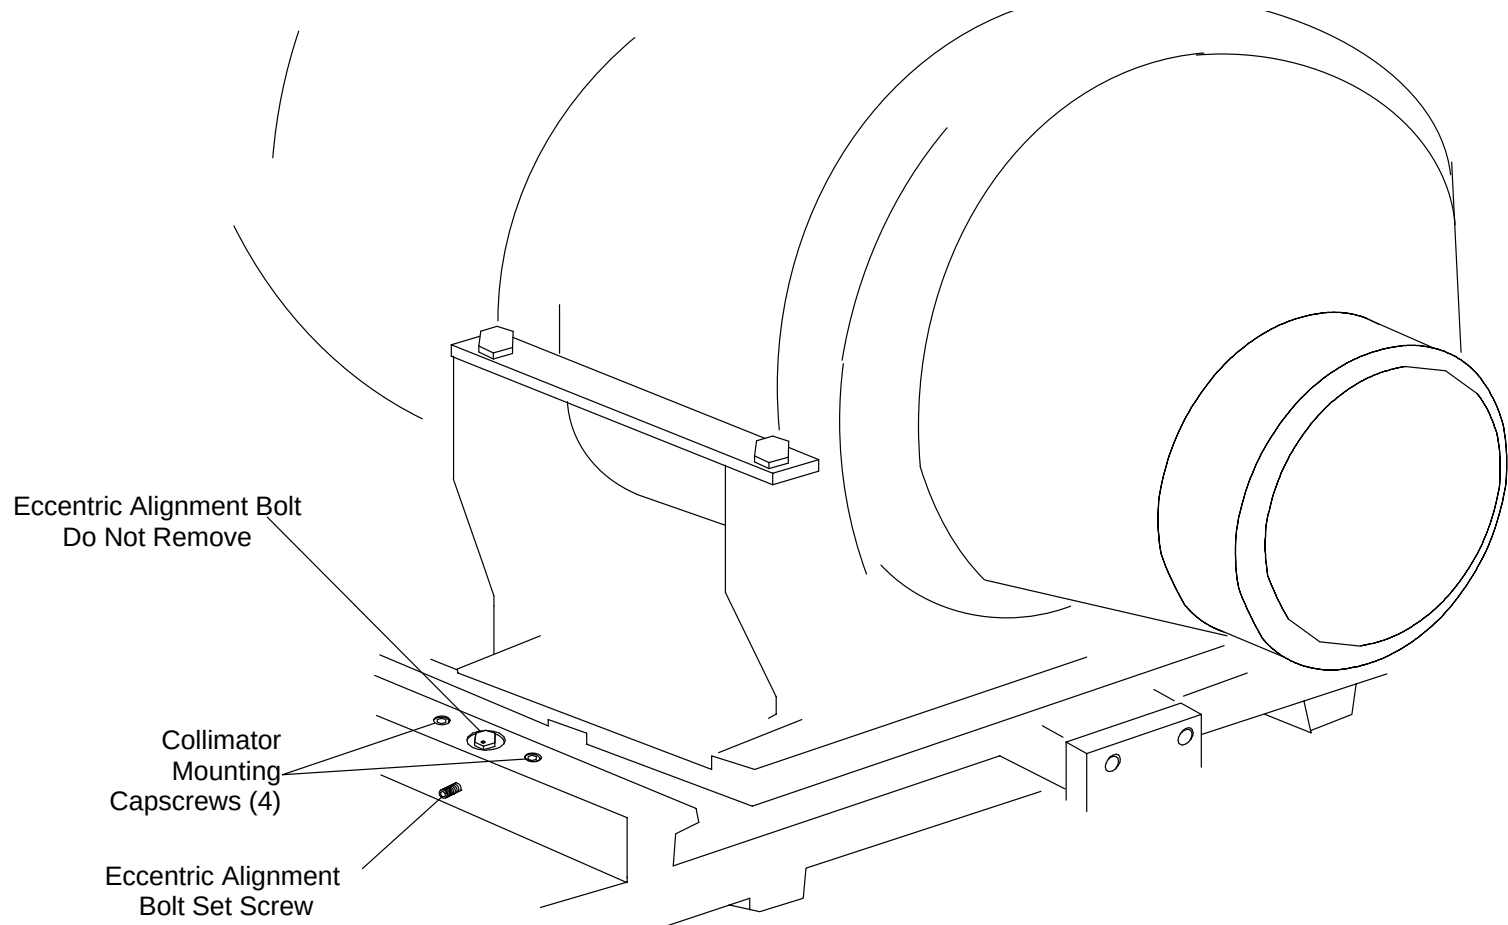

FIGURE 258 Collimator Mounting Screws
5. Place a reference mark on the Eccentric Adjustment Bolt and Gantry Frame. If the Eccentric Bolt should get moved, use the reference marks to realign it. Refer to Figure 258.
6. Loosen (but do not remove) the four Collimator Assembly Mounting Screws. See Figure 258.
9. Carefully remove the four Collimator Mounting Capscrews. Refer to Figure 258.